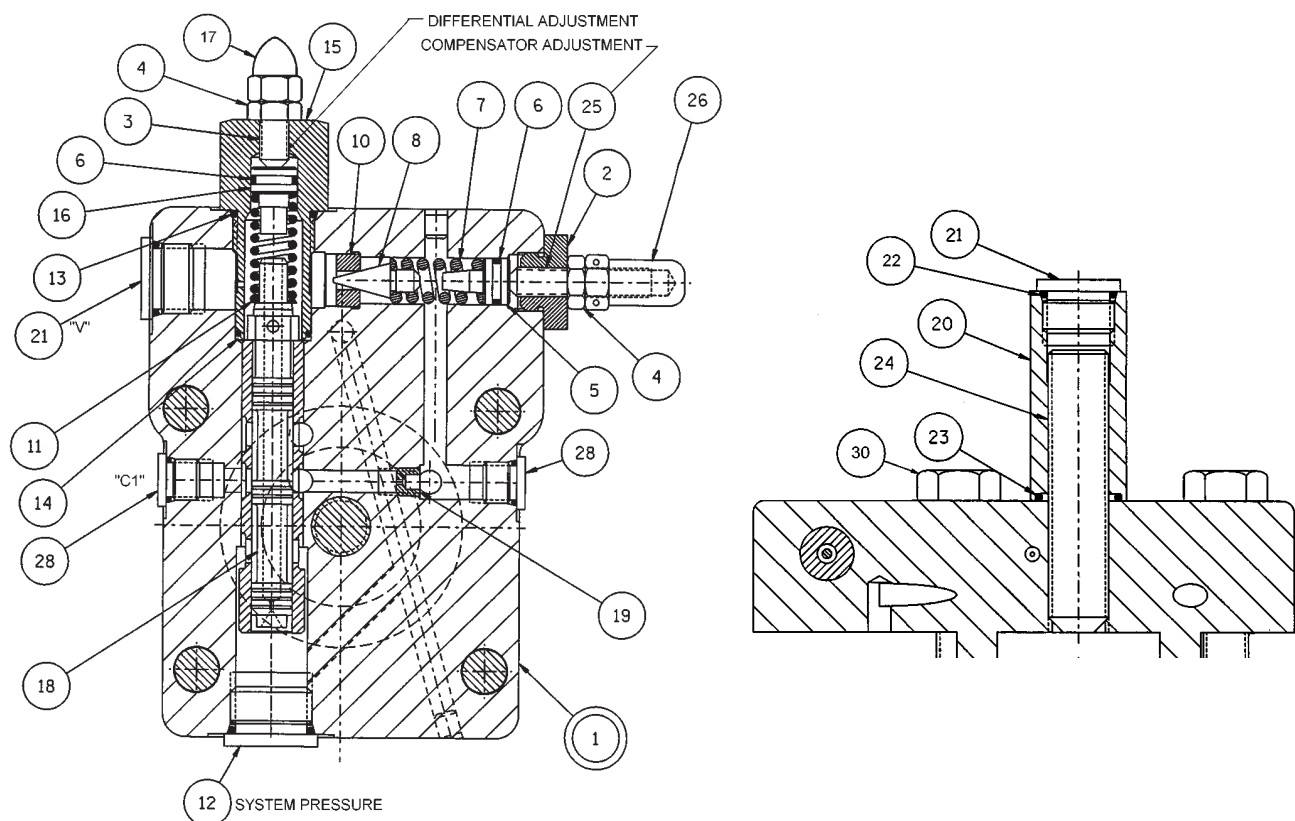

FIGURE 7
See figure 5. Adjust maximum volume screw (24 figure 7) CCW until piston (41) bottoms out in control cap (1).